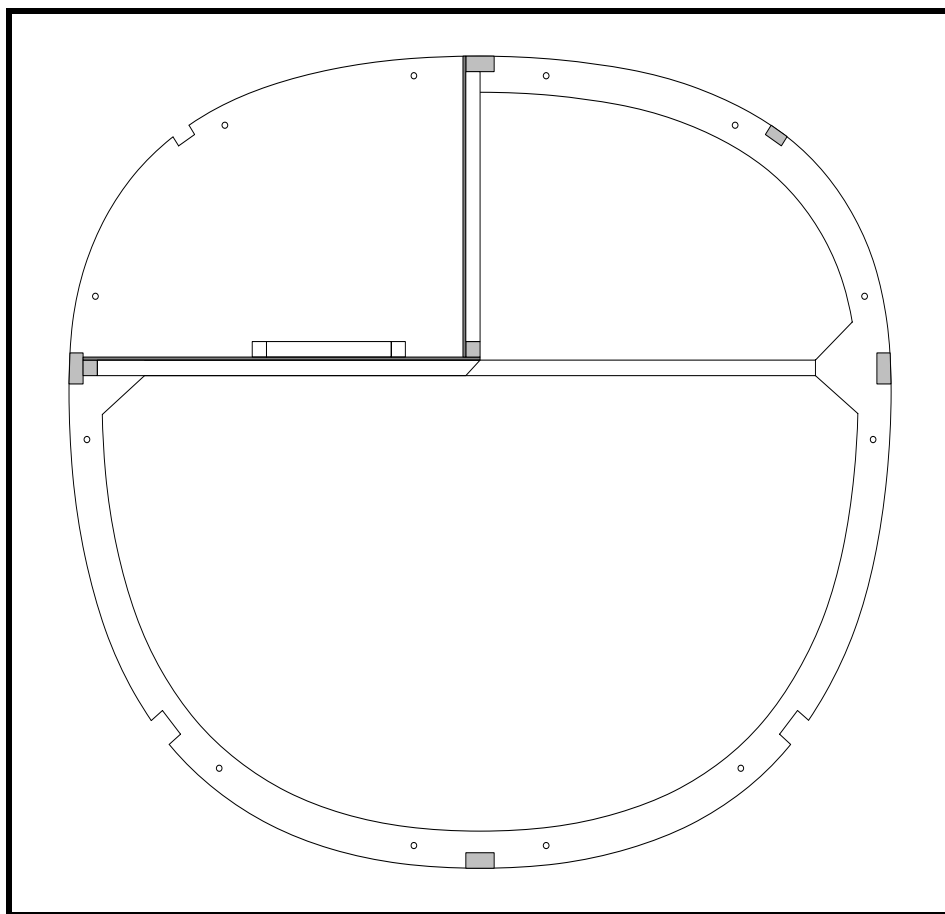

Figure 40
- ❑ Fit and install the forward wall of the battery box at frame 8. See Figure 40.